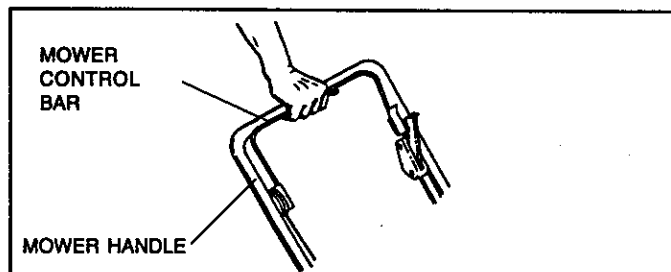

Figure 3
- Depress mower control bar (see Figure 3) against mower handle and hold it in this position.